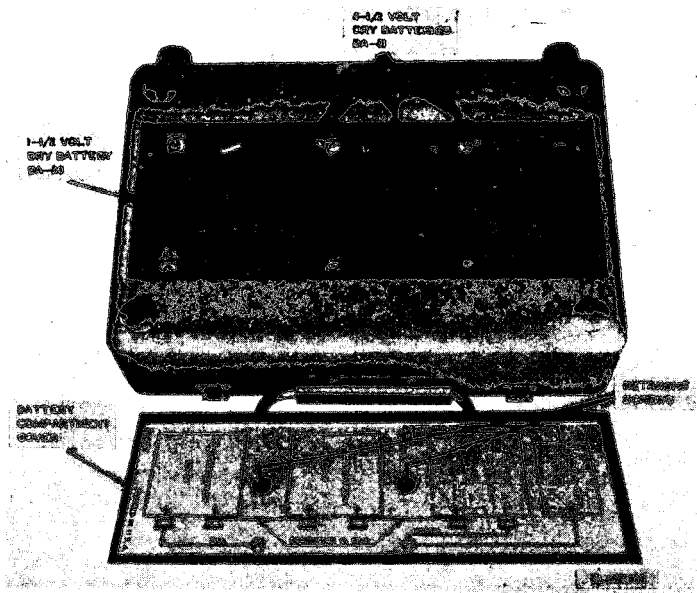
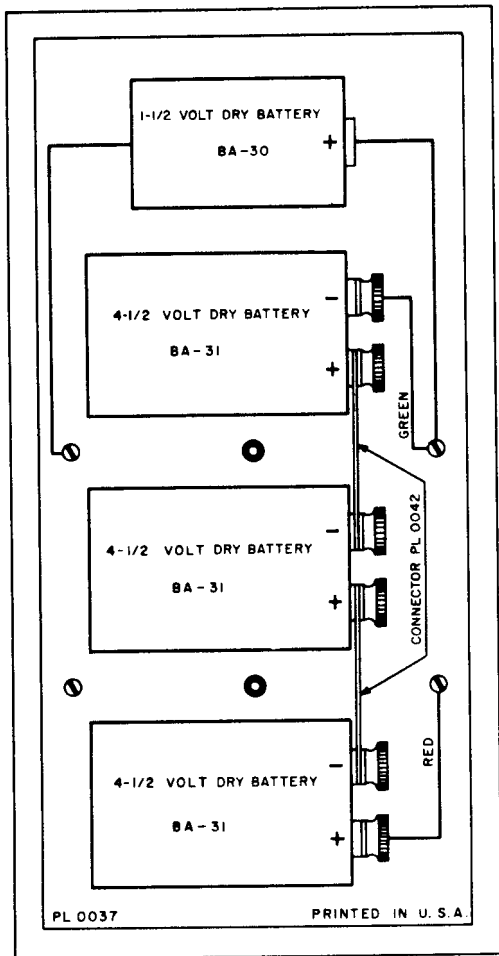

Figure 2-2. Battery compartment with batteries in position.
Figure 2-3. Battery connection diagram on inside compartment cover.
*a. Battery Installation.* To install the batteries in the multimeter (fig. 2-2), place the multimeter face down on a flat firm surface and proceed as follows:
(1) Loosen the retaining screws that hold the cover in place by turning the screws counterclockwise.
(2) Lift up and remove the cover. Place the cover so that the connection diagram on the inside of the cover (fig. 2-3) can be easily referred to in order to make the necessary connections.
(3) Connect three Dry Batteries BA-31 in series; use the connectors supplied. Install the batteries in the battery compartment, as indicated by the connection diagram on the battery compartment cover.
(4) Place Dry Battery BA-30 in the compartment provided so the spring makes contact with the bottom of the battery.
(5) Place the battery compartment cover on the bottom of the multimeter.
(6) Align the retaining screws with their proper holes.
(7) Hold the cover to prevent it from shifting, and secure the cover in position by turning